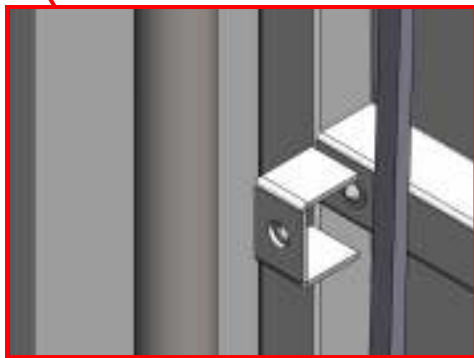

Figure 6.3
- 2) Place the C Plates **(K)** (see figure 6.3 & 6.4).